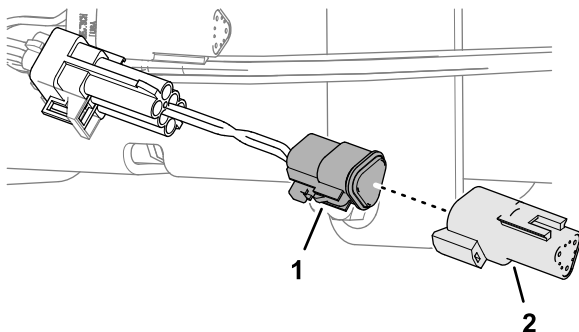

Figure 178
3. Plug the resistor that you removed in Removing the Terminating Resistor \(page 75\) into the 3-socket connector of the adapter harness (Figure 178).